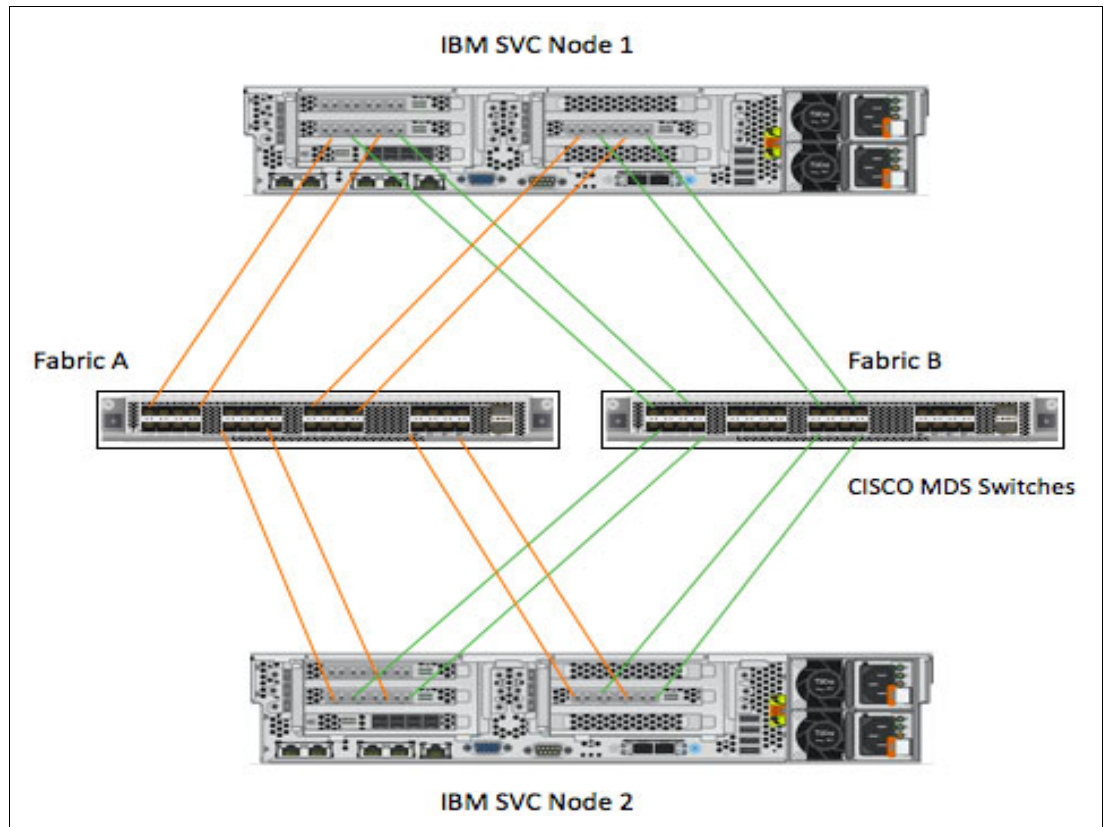

Figure 3-2 Two Node SVC Cluster Fibre Channel connectivity to Cisco MDS SAN switches
Our testing environment for this publication includes eight Fibre Channel (FC) ports. These connections are going into a standard dual fabric topology, as shown in Figure 3-2. Note that this diagram shows that each node is connected to each switch by using four ports (two per HBA). This configuration is intended to ensure maximum redundancy to prevent a single SAN failure from affecting the stability of the overall solution.